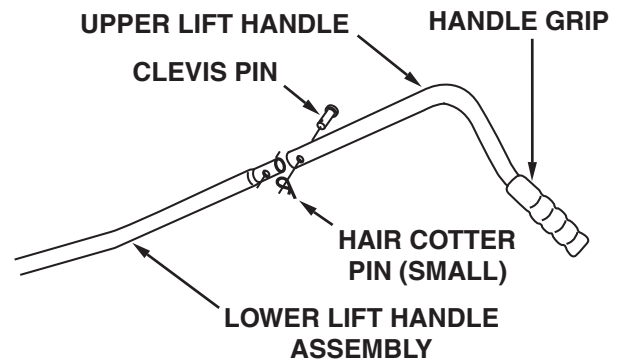

Figure 5
- Assemble the handle grip onto the upper lift handle. See figure 5.
- Place the upper lift handle onto the lower lift handle assembly. Align the holes and secure with the clevis pin and a small hair cotter pin. See figure 5.